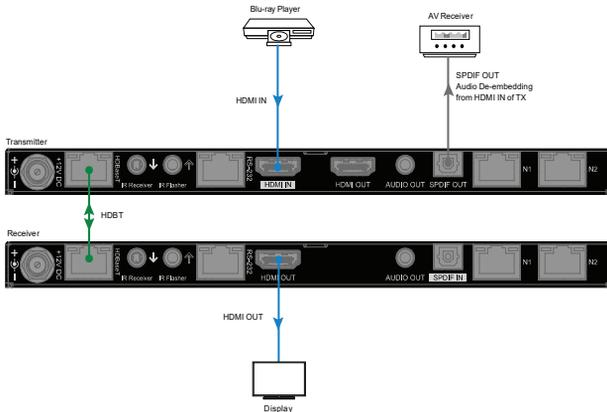

Figure 3: To extract TX HDMI IN audio
- Set Pin1 of transmitter (TX) to “down”, HDMI de-embed mode. HDMI IN embedded audio will be extracted and outputs via SPDIF OUT. See Figure 3. HDMI extraction audio supports up to 5.1CH Dolby&DTS, or 2CH PCM.